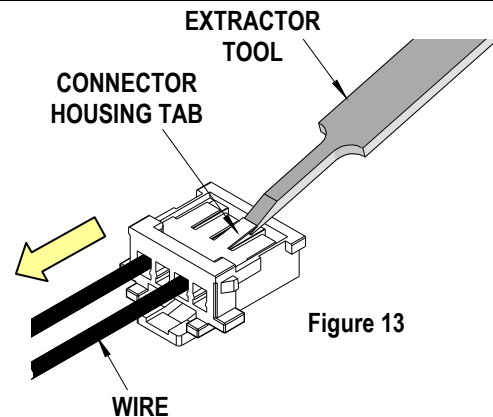

Figure 13
2. Gently lift up on the housing tab, and push the terminal back through the connector slot. While pulling the terminated wire out in the direction of the arrow. See Figure 13.